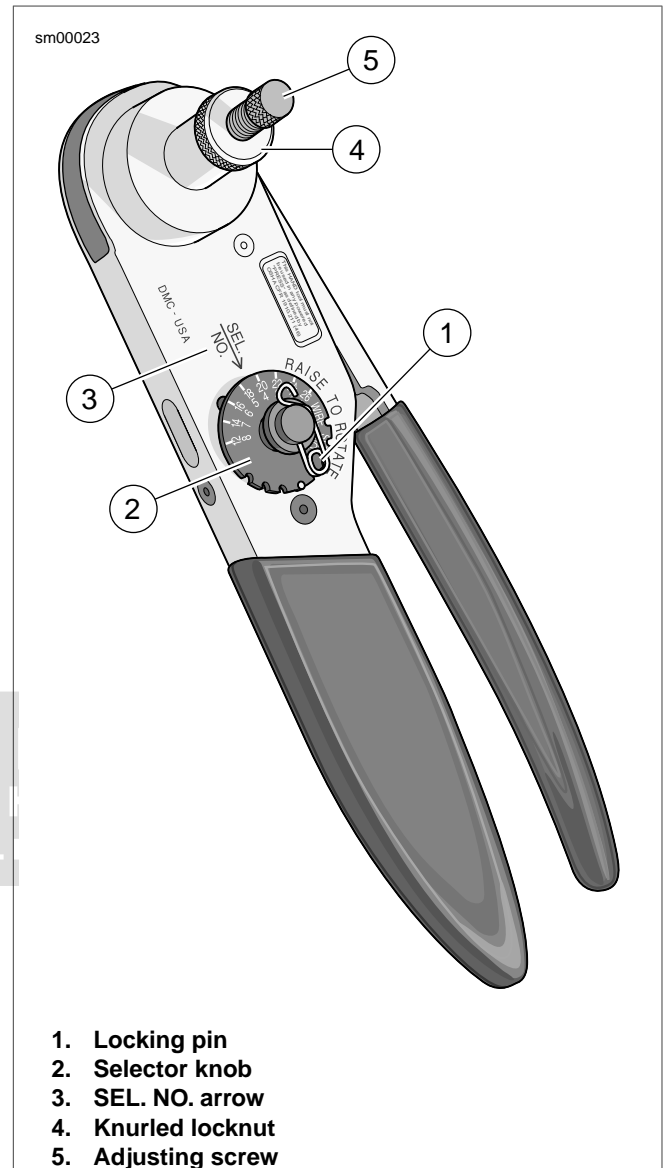

Figure A-22. Electrical Crimper Tool (HD-42879)
1. See Figure A-22. Squeeze the ELECTRICAL CRIMPER TOOL (Part No. HD-42879) handles to cycle the crimp tool to open.
2. Remove locking pin (1) from selector knob (2).
3. Raise selector knob and rotate until selected wire size stamped on wheel is aligned with "SEL. NO." arrow (3).
4. Loosen knurled locknut (4) and turn adjusting screw (5) clockwise (in) until it stops.